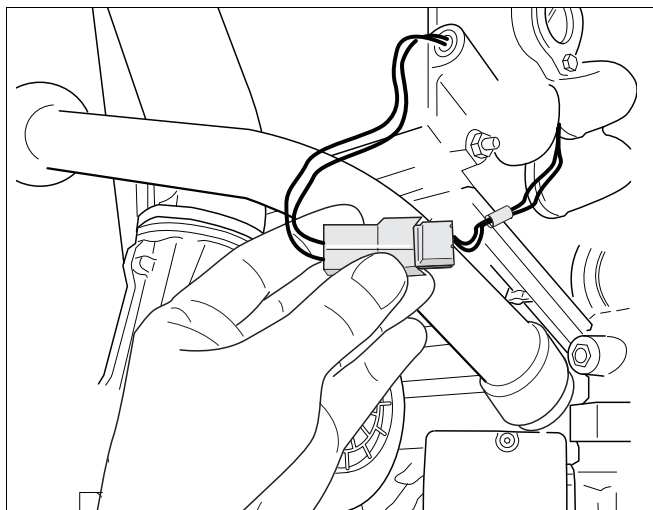

fig. 91 *Loosening the plug and socket connections of the supply sensor*
- Disconnect the plug and socket connections of the supply, return and safety sensors (see fig. 91, 92 and 93).